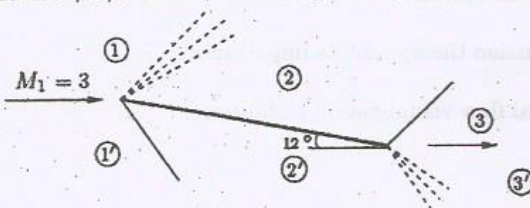

Figure 14(b)
- (OR)
- b) i) Explain Prandtl-Meyer expansion fan with a neat sketch. (7)
- ii) An air stream flowing out of a convergent nozzle at 200 m/s and 30°C is made to enter an insulated pipe of diameter 20 mm. Determine the length of the pipe at which the flow will become sonic if the average friction factor is 0.02. (6)
13. a) Derive the basic nonlinear potential equation for compressible flow. (13)
14. a) i) Explain transonic area rule with area distribution plot and C_D vs. M_∞ plot. (7)
- b) For the flat plate shown in Figure 14(b), calculate the flow Mach numbers at zones 2, 2', 3 and 3', assuming the slipstream deflection to be negligible. (13)